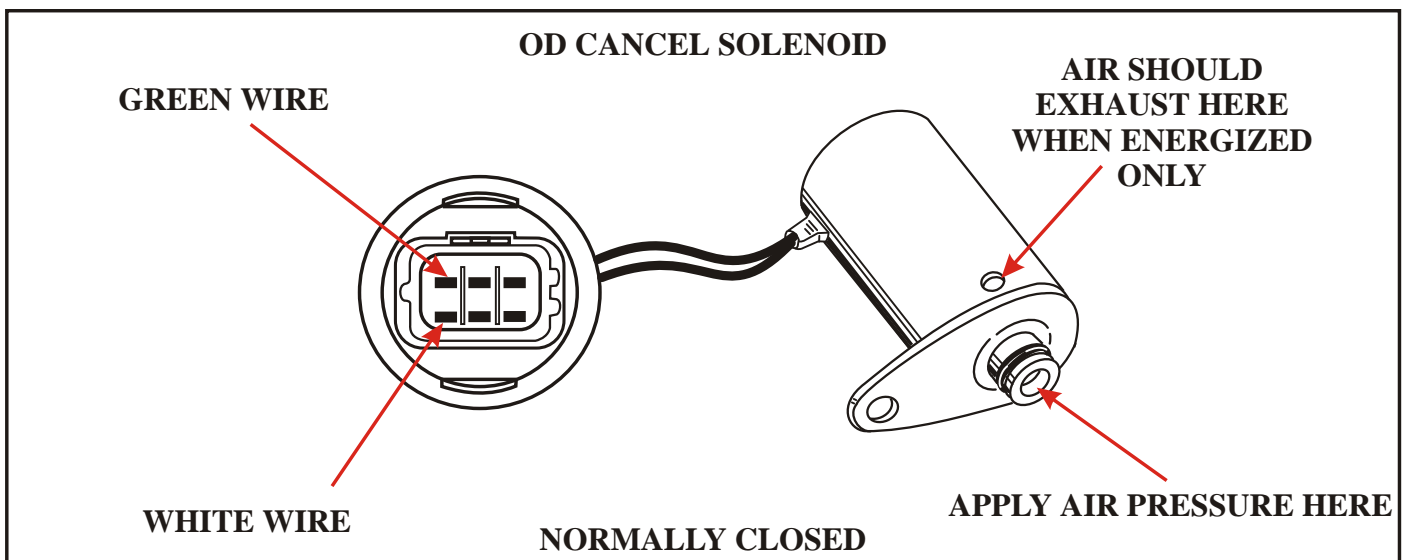

Figure 6
3. Remove the valve body and inspect the OD cancel solenoid with air (See Figure 6). This solenoid is a normally closed solenoid. When it is not energized, it blocks or holds pressure. When energized, it allows pressure to be vented away through the exhaust hole on the side of the solenoid. Replace the solenoid if necessary. If the solenoid checks good, go to the last step.